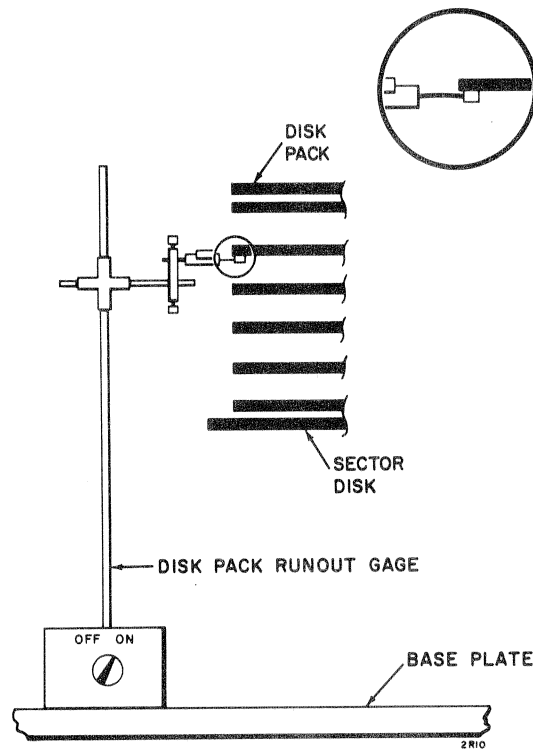

Figure 7-3. Disk Pack Runout Gage
4. Place the disk pack runout gage (84357600) on the disk drive base plate (Figure 7-3).